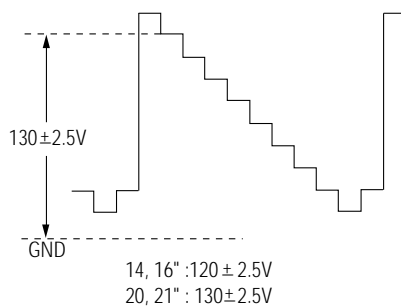

Fig. 4-1
4. Adjust the Screen VR (on the FBT) so that the voltage on the oscilloscope becomes  $130 \pm 2.5V$  (See Fig. 4-1).